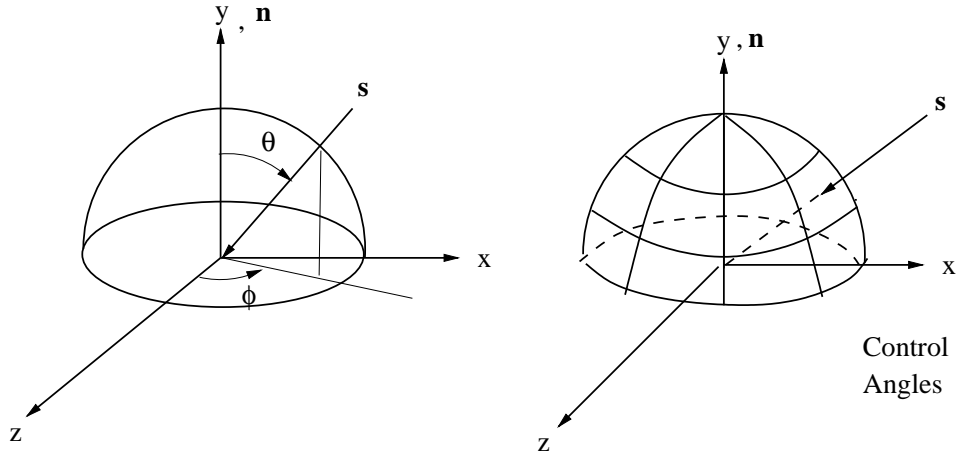

Figure 2: Angular Discretization
Consider a hemisphere associated with each grid point, spanning a solid angle of 2π . Just as we discretize space into control volumes, let us discretize the hemisphere into control angles. A typical discretization $N_\theta \times N_\phi$ for the south (S) surface is shown in Figure 2; here N_θ is the number of control angles in the θ direction and N_ϕ is the number of control angles in the ϕ direction. Choose $N_\theta=2$ and $N_\phi = 8$. Thus, the control angle extents are: